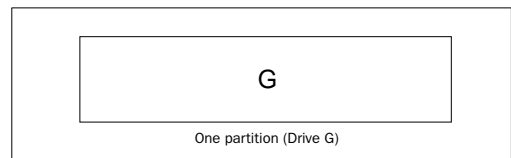

Figure 23. One partition per physical drive
- ◆ You can partition your drive as one primary partition, having the partition represented by a drive letter (Figure 23).